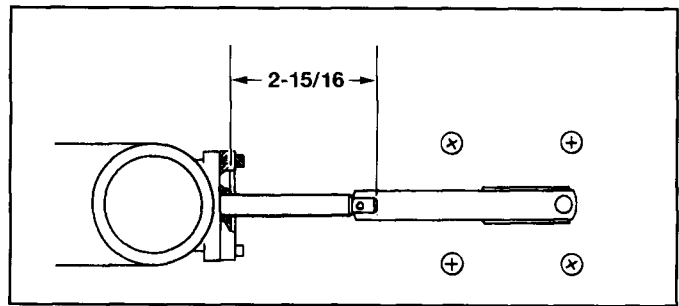

Figure 8 Backwash Position
4. Push in red knob on timer, turn **COUNTERCLOCKWISE** until arrow points to the **START** position to move the piston to the **BACKWASH** position (Figure 8).